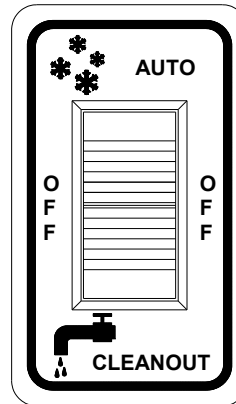

Fig. 25
5. Set the control switch (Fig. 25) to the “CLEANOUT” position and let the unit agitate for approximately three to five minutes.